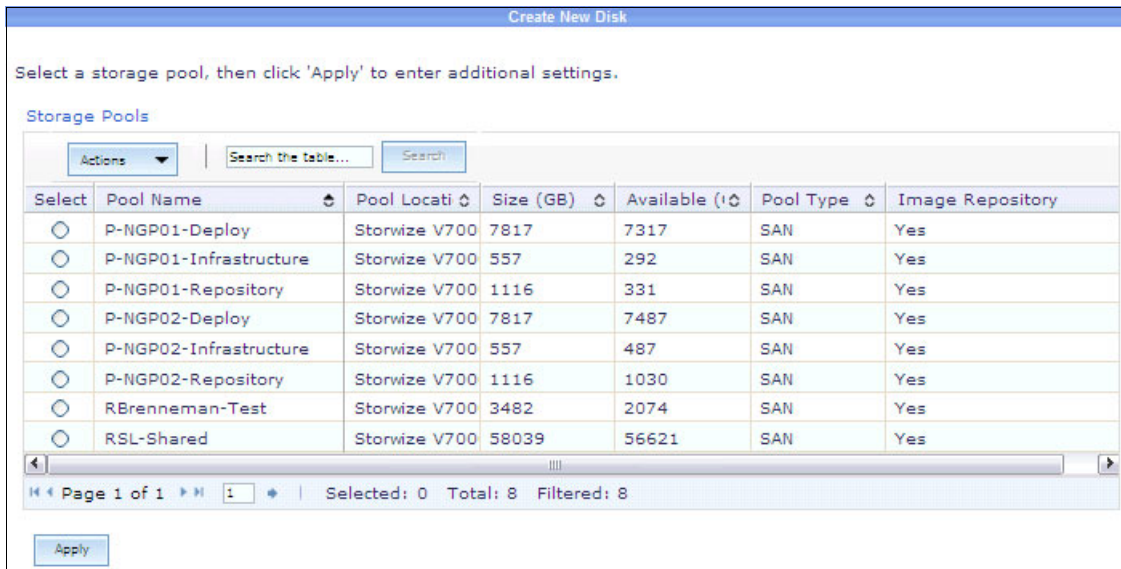

Figure 5-10 Create a KVM disk in a storage pool
- Select the pool to create your virtual server disk as shown in Figure 5-10.